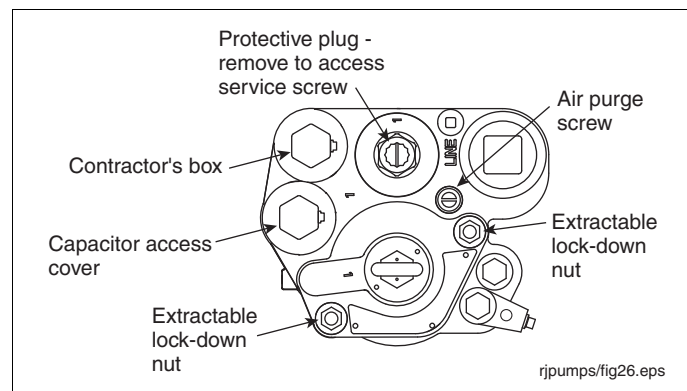

Figure 39. Extractable Lock-Down Nuts
2. Remove the two extractable lock-down nuts (see Figure 39). The springs on the lock-down studs between the extractable's flange and the manifold will push the extractable up, breaking the seals.
12. Turn the air purge screw 2 - 3 turns counterclockwise (see Figure 39).